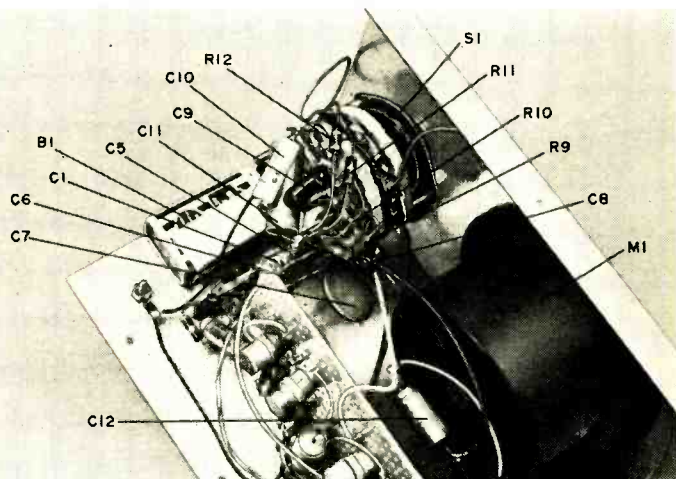

Fig. 3. The frequency-determining components can be assembled on the back of the switch, and the entire assembly mounted on the front panel.
**Construction.** Parts placement and layout is not critical. In Fig. 3, the test circuit is shown breadboarded on an  $8\frac{1}{2}'' \times 6''$  piece of  $\frac{3}{4}''$  plywood. The front panel is an  $8\frac{1}{2}'' \times 4\frac{1}{2}''$  piece of 16-gauge aluminum. More compact construction can be obtained by using a  $6'' \times 5'' \times 4''$  aluminum utility box. Ground only those points shown in the schematic (Fig. 1). Use spaghetti to insulate  $Q1$ 's leads.
A three-lug terminal strip, mounted on the range switch (see Fig. 3), serves as